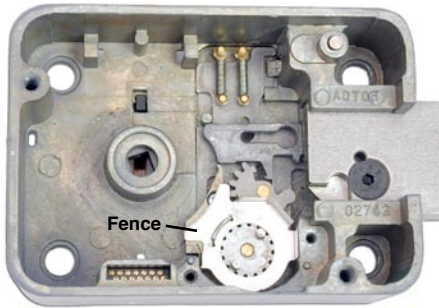

Figure 4 - Remove Fence
10. Remove the fence. (Figure 4)